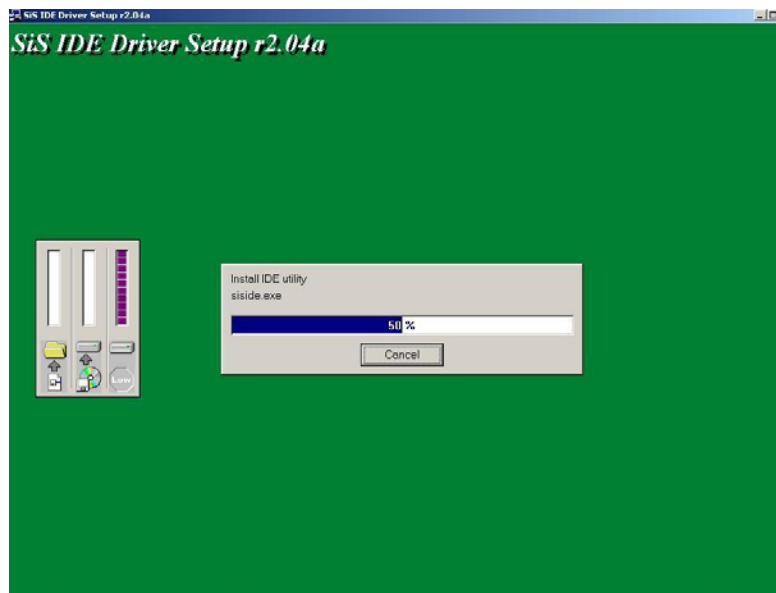

Figure 6-20: Chipset Driver Installation Complete
Step 5: The driver installation begins (**Figure 6-20**)